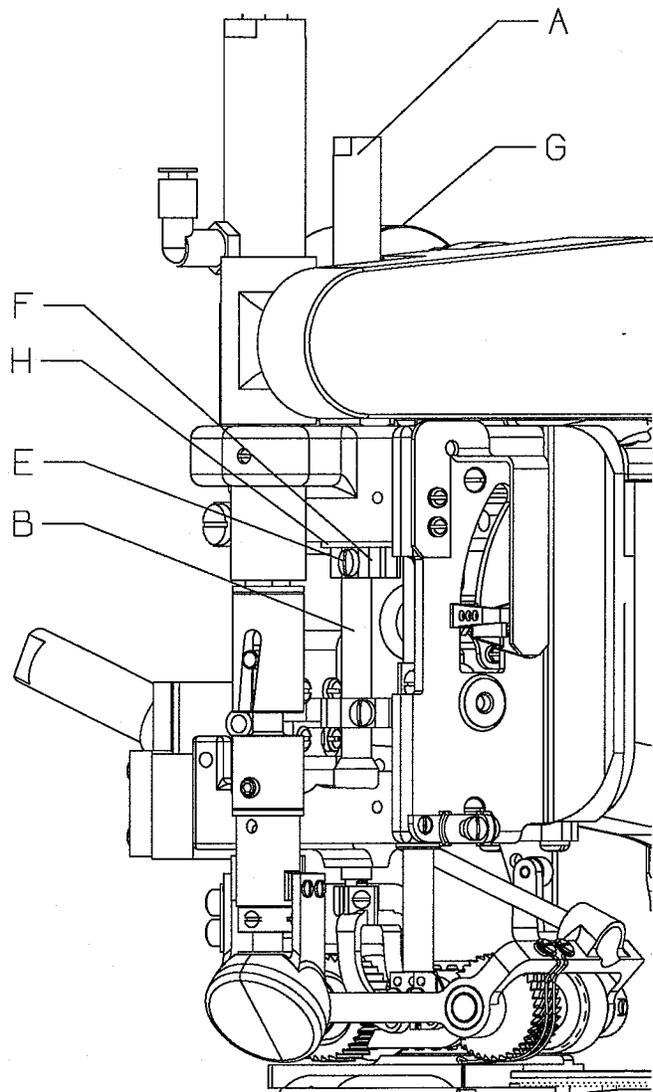

Fig. 2
When presser bar air assembly (A, Fig. 2) and/or presser bar (B, Fig. 2) has been removed or replaced, presser bar stop collar (F, Fig. 2) must be reset. Stop collar must be set so that there is a minimum of $1/32''$ (0.8mm) clearance between top of presser foot (C) and needle bar head (D). The clearance setting must be done with needle bar at bottom of stroke.